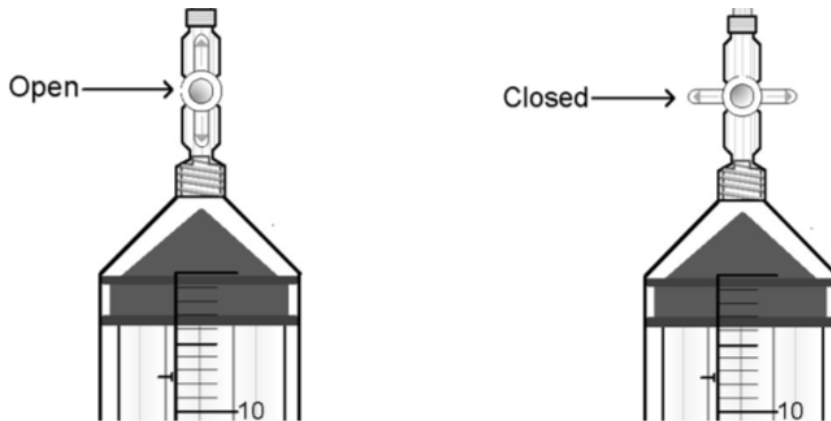
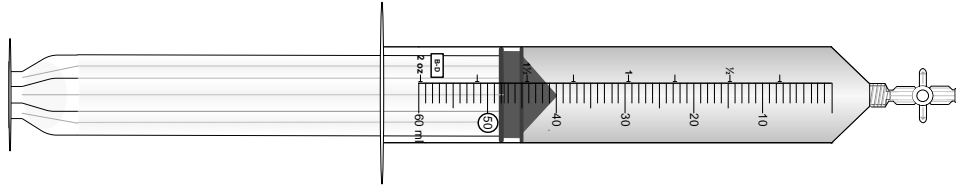
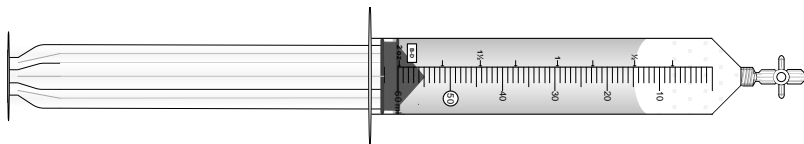

Figure 7. Example of a syringe and stopcock in the "open" and "closed" positions
Figure 8. A syringe with a 45 mL water sample
Figure 9. A syringe with 45 mL of water and 15 mL of air
- q) RINSE: Place the syringe tip (with 2-way stopper attached and turned to open; Figure 7) into the stream so that you are sampling the water ~10 cm under the surface of the water. Pull in ~20 mL water and remove syringe from stream. Rinse the syringe by pulling the stopper all the way back (without removing it) and shake. Expel the rinse water downstream or onto the bank. Repeat.
- r) **SAMPLE:** Put the syringe tip back into the water, below the surface, and pull the plunger until the syringe is completely full. Remove the syringe and tap the sides of the syringe firmly with your hand/fingers to remove the air bubbles. EXPEL water, leaving approximately 1 mL in the syringe, which will help reduce air intake on the next sampling. Put the syringe back in the water, expel the final 1 mL of aerated water below the stream surface, and slowly fill to the 45 mL mark, being careful not to entrain any air bubbles (Figure 8). Immediately turn the 2-way stopper to the closed position before removing the syringe from the stream (Figure 7). Take 5 separate syringe samples all within the main flow of water. Place the syringe in a small cooler to help maintain stream temperature at time of collection.
- a) Away from stream, where there will be no contamination in the air from the injection, such as upstream and upwind, open stopcock and draw in 15 mL of air so the syringe is filled to the 60 mL mark with air and water (Figure 8). Close stopcock. VERY IMPORTANT: To be consistent, be sure to have the bottom of the meniscus at the 15 mL mark (Figure 9).
- d) After shaking, place needle with needle cover still attached on 2-way stopcock. Once needle is attached, remove the plastic covering. Holding the syringe upright, open the stopcock (Figure 9) and push a small amount of air (~0.5 mLs) through the needle to purge the air in needle.